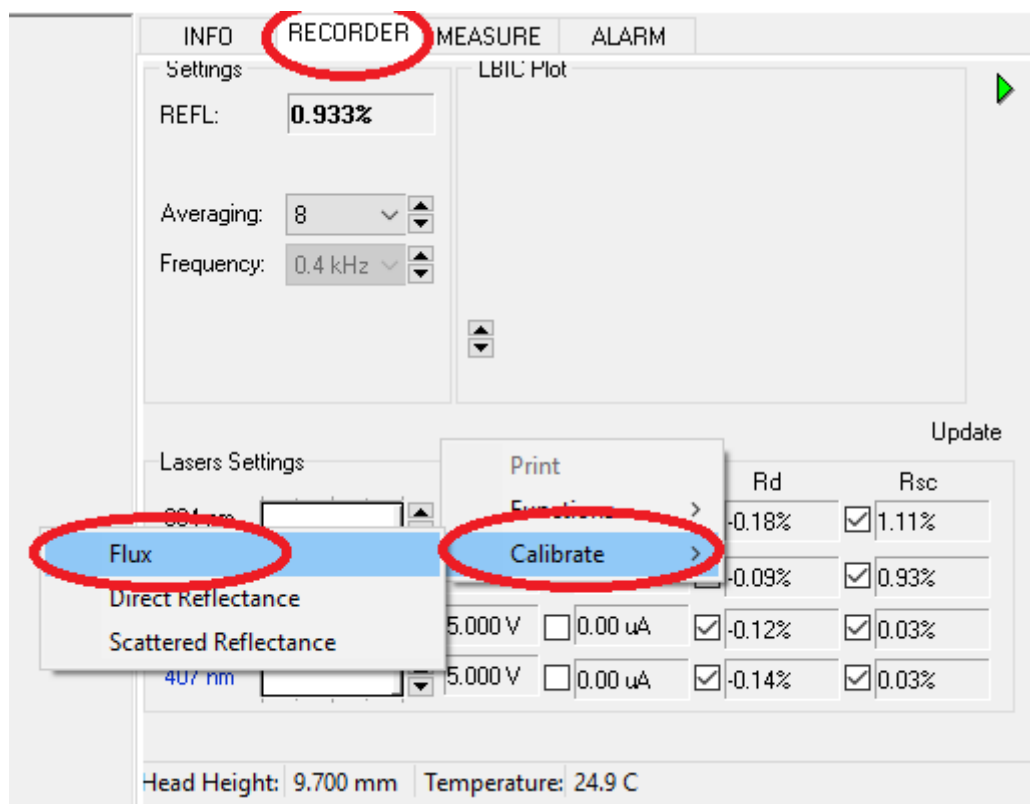

Figure. 26
2. Right click and select "Calibration"->"Flux" as shown in Figure. 26